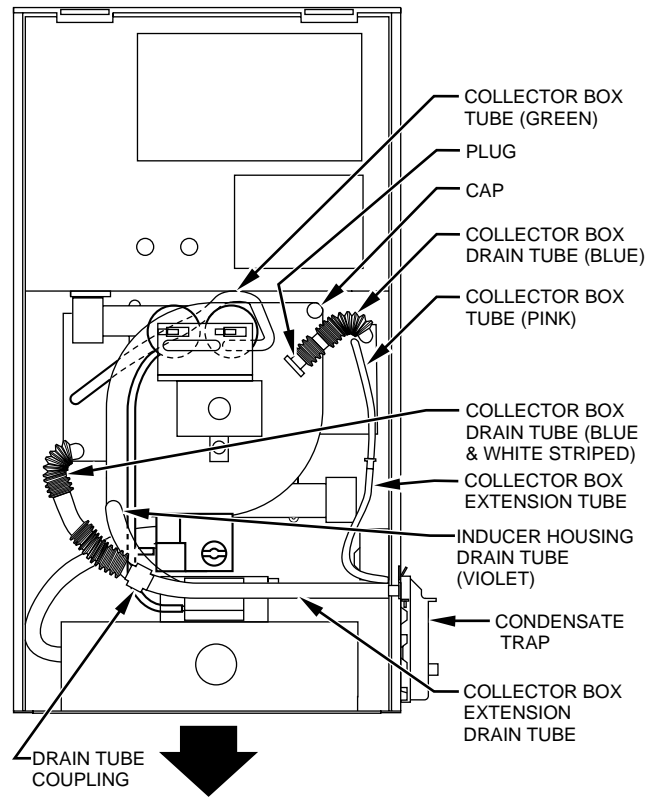

Fig. 10—Downflow Tube Configuration (Right-Hand Trap Installation)
- (c.) Route extended collector box drain tube directly from collector box drain to condensate trap as shown in Fig. 10.